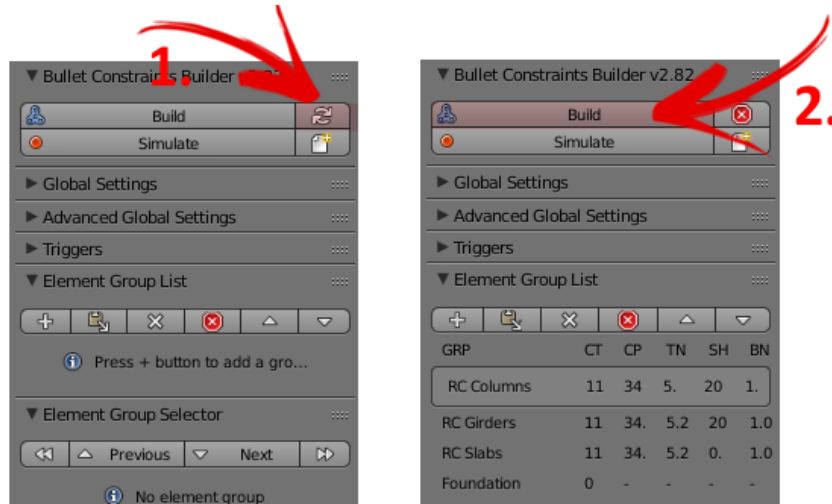

Figure 11
- In the BCB- user interface **load configuration settings** (1. in Figure 11), this will load the material settings for the element groups.
- Press “**Build**” (2. in Figure 11), this will connect the building elements in the scene with each other. This process may take around 10 seconds.